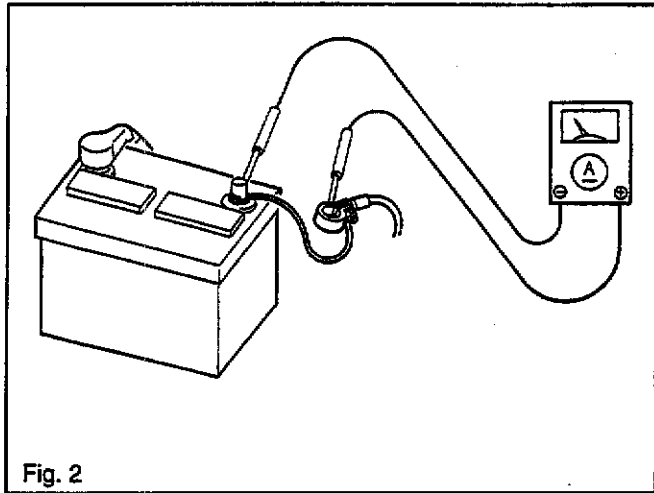

Fig. 2
6. Select "Maximum Amperage Range" (1A or 3A) on the circuit tester and connect tester. Refer to Fig. 2.